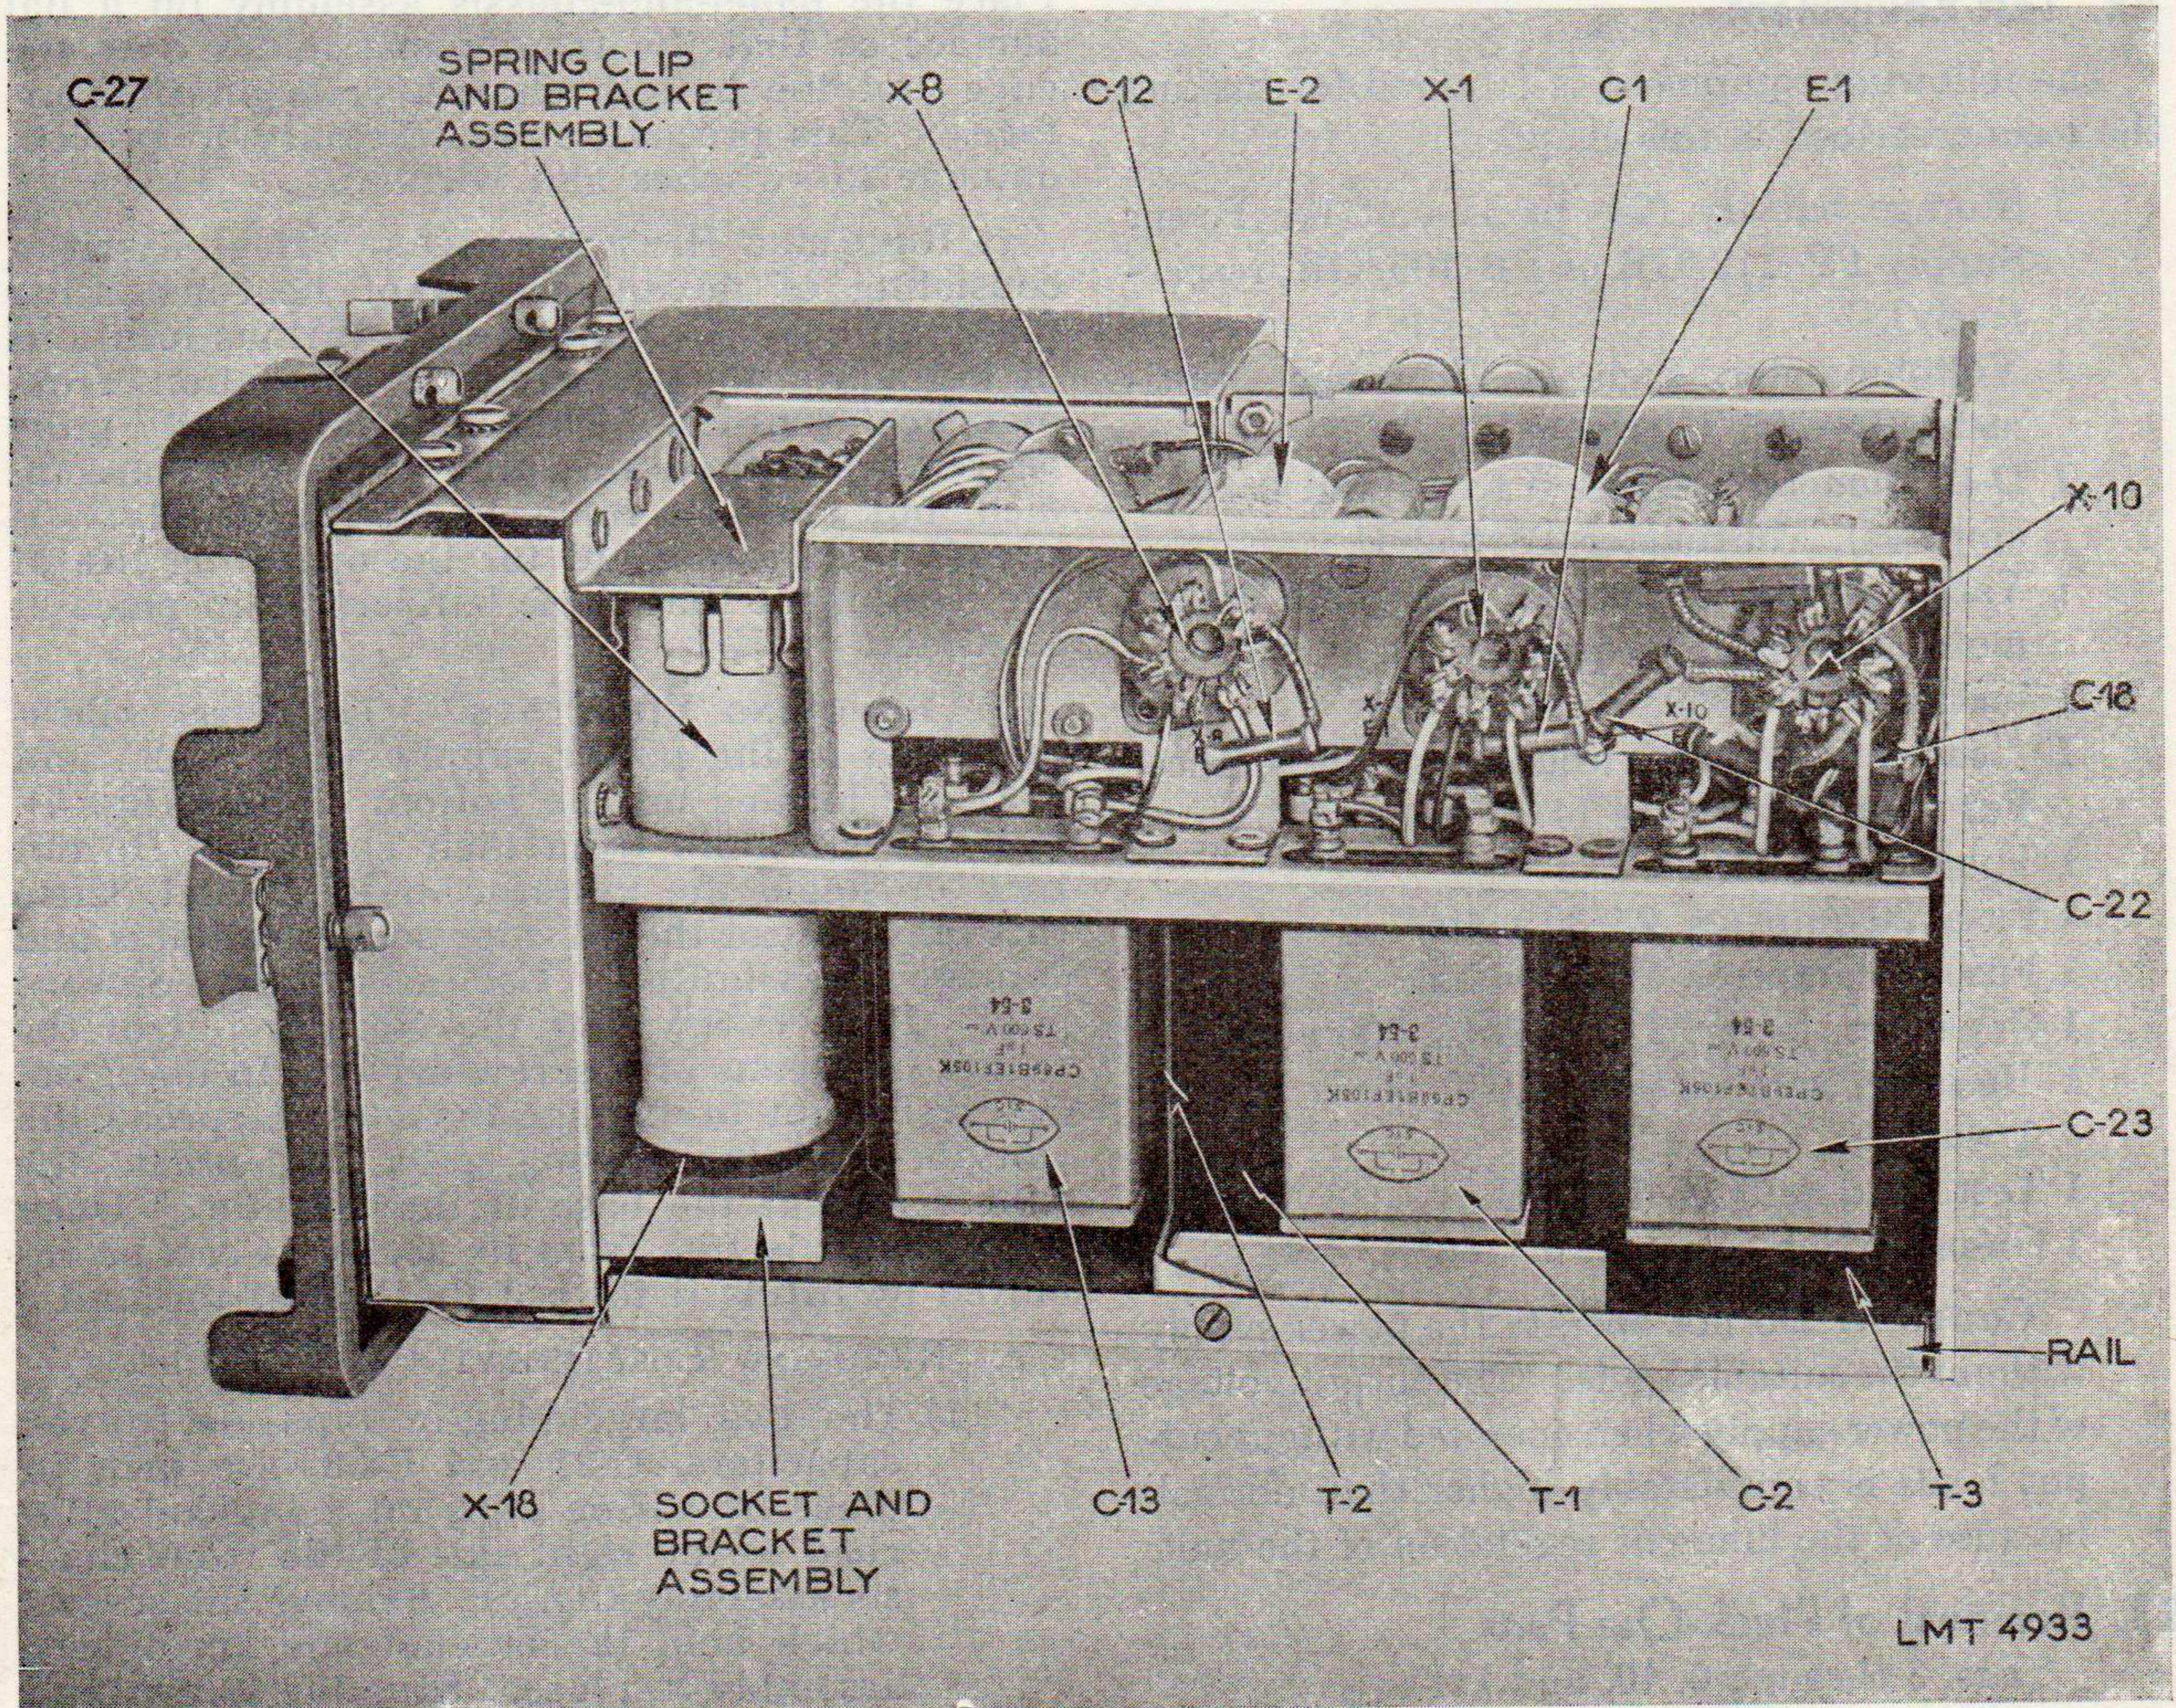
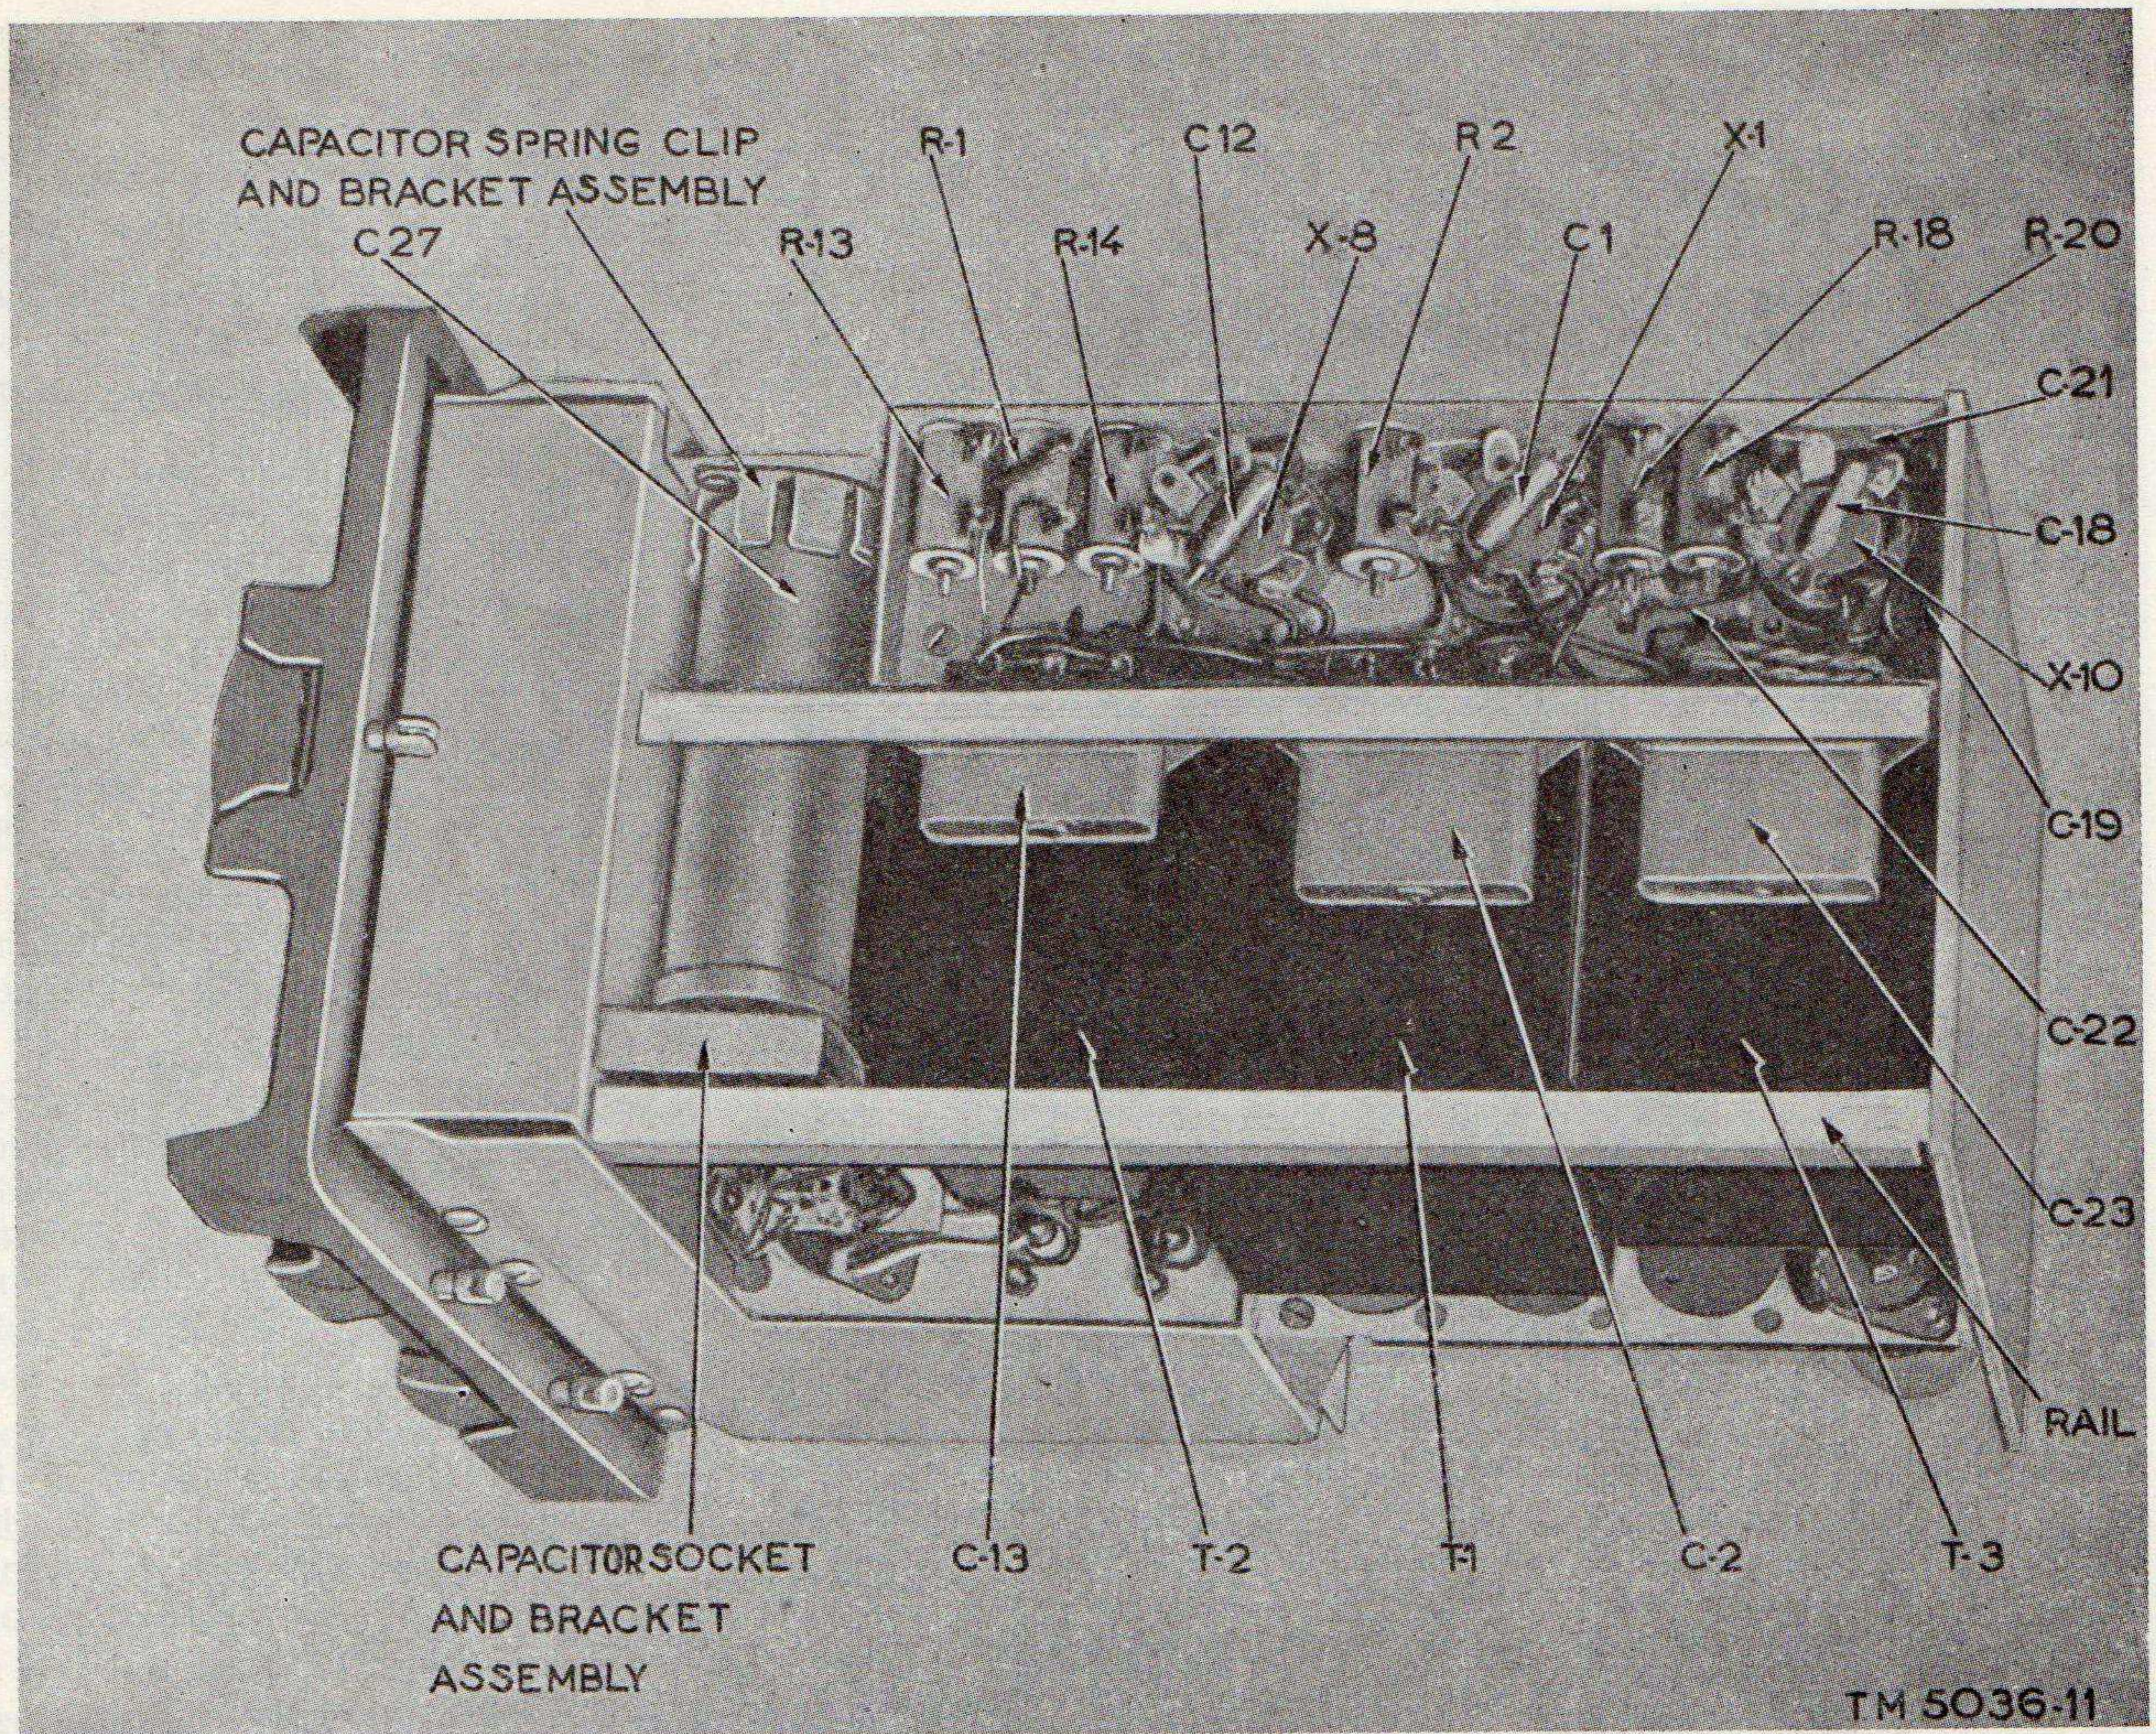

Figure 10. Power Supply PP-112/GR, bottom view.
Figure 11. Power Supply PP-109/GR, bottom view.
(figs. 10, 11, and 12)
- (1) Turn the unit upside down. Facing the rear of the power supply unit, remove the rail in the upper left-hand corner of the unit, and remove the rail (fig. 11).
- (2) Remove the nut which fastens the bracket of the transformer T-1 on the upper chassis assembly.
- (3) Place the unit on its side, so that the vibrator shelf is uppermost, the rear plate to the right, and the front panel to the left (fig. 10).
- (4) Remove the three hexagonal-head screws which fasten the transformer and buffer capacitor mounting bracket to the front of the assembly.
- (5) Remove the five flat-head screws which hold the bottom chassis to the rear plate.
- (6) The bottom chassis assembly can now be disengaged from the upper chassis and rear plate assembly. Pull the bottom chassis away from the rest of the unit. Do not loosen any soldered connections or place undue strain on the two connecting cables.